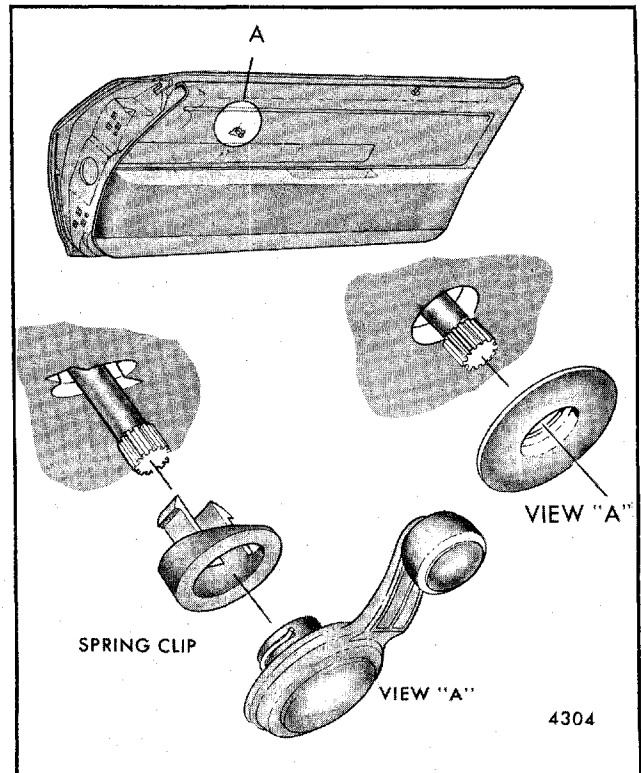
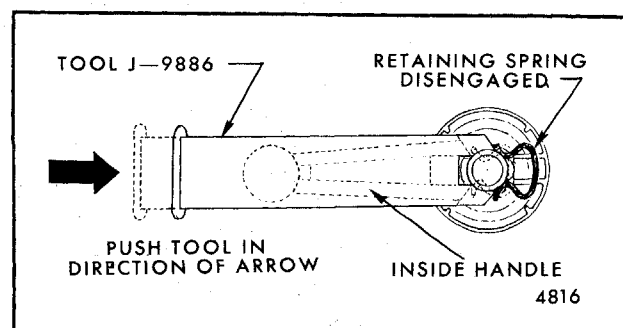

Fig. 5-15-Typical Window Regulator Handle Installation
Fig. 5-21-Clip Retained Door Inside Handle Removal
1. Clips hidden by window regulator handles (Fig. 5-15) can be disengaged by depressing door trim assembly sufficiently to permit inserting tool J-9886 or equivalent between handle and trim panel or plastic bearing plate (Fig. 5-21). Then, with tool in same plane as inside handle, push tool as indicated to disengage clip. Pull handle inboard to remove from spindle.